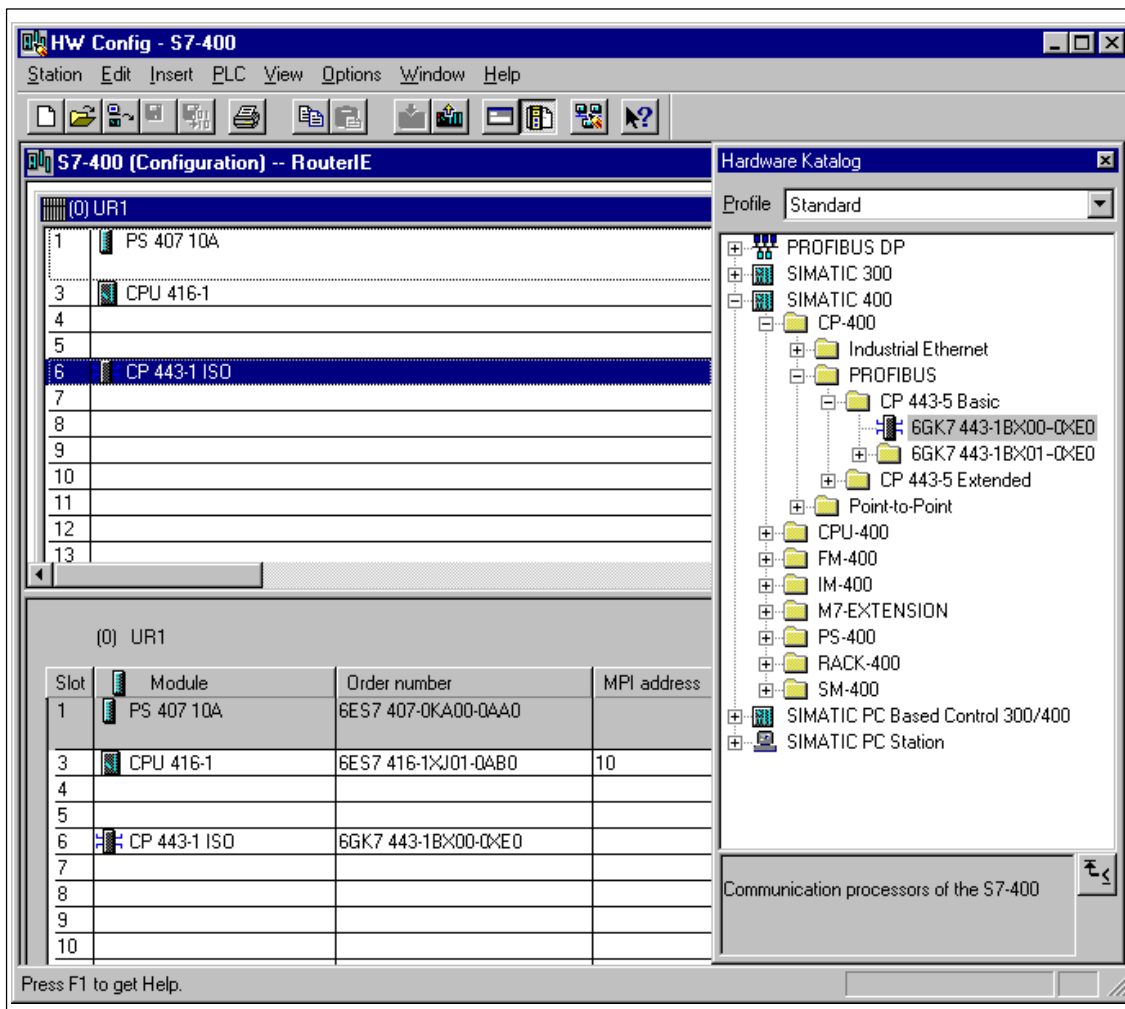

Figure 2-9 Configuring the Hardware of the S7-400 Station
1. Select the components listed below and configure them as shown in Figure 2-9.